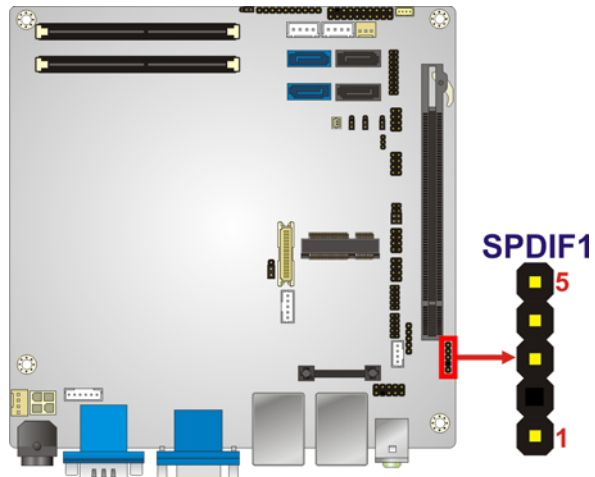

Figure 3-20: SPDIF Connector Location
- CN Location:** See **Figure 3-20**